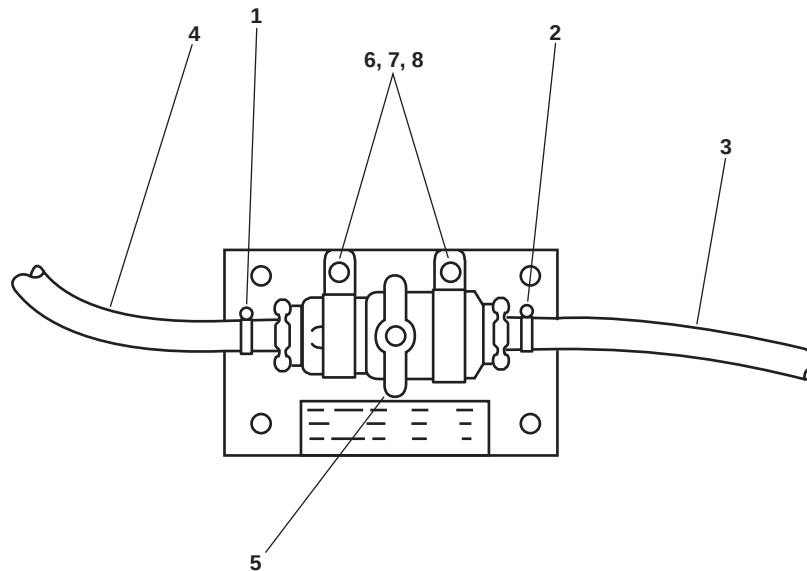

Figure 3. Dual Feed Valve Assembly
3. Loosen the clamps (figure 3, items 1 and 2) that secure the hoses (figure 3, item 3 and 4) to the dual feed valve (figure 3, item 5).
4. Remove the hoses (figure 3, item 3 and 4) from the dual feed valve (figure 3, item 5) and drain the fluid into the suitable drain pan.
5. Remove the two screws (figure 3, item 6), the two locknuts (figure 3, item 7), and the two flat washers (figure 3, item 8), and remove the dual feed valve. Discard the locknuts.
1. Install the dual feed valve (figure 3, item 5) using the two screws (figure 3, item 6), two new locknuts (figure 3, item 7), and the two flat washers (figure 3, item 8).
2. Install the hoses (figure 3, items 3 and 4) on the dual feed valve (figure 3, item 5) and secure the hoses with the two clamps (figure 3, items 1 and 2).